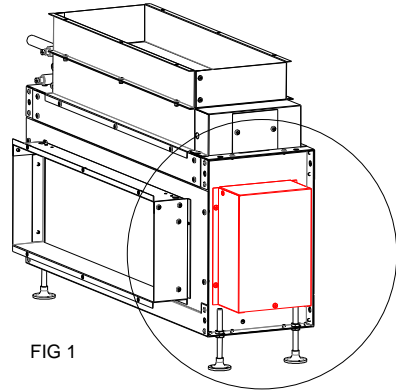

FIG 1
1. Identify and remove the 4 screws that attach the electrical panel cover (Shown in red, Fig 1).
2. Remove the screws attaching the electrical panel to the chassis so that it becomes free (See fig 1). **Do not disconnect any wires at this point.**